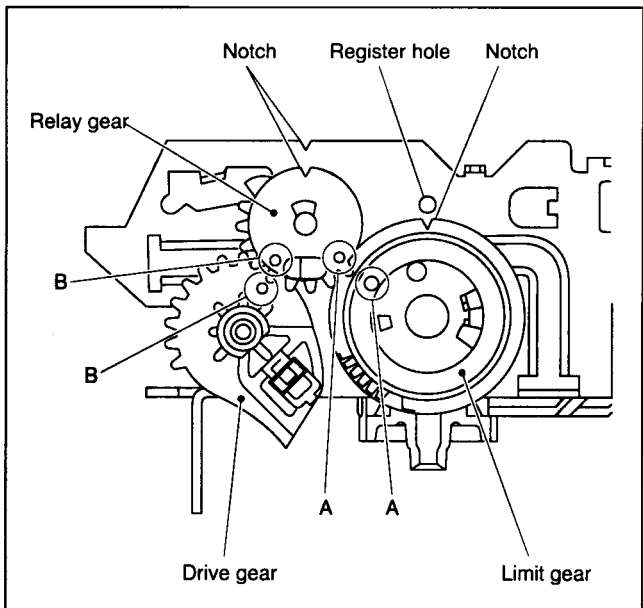

Fig. 2-3-7
- Install the limit gear so that the notch at its outer circumference is in alignment with the register hole of the main deck. (See Fig.2-3-7)
- Install so that the notch at the outer circumference of the relay gear is in alignment with the notch of the main deck, and at the same time, that the hole A of the relay gear is in alignment with hole A of the limit gear and hole B of the relay gear with hole B of the drive gear. (See Fig.2-3-7)